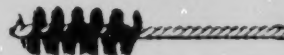

Figure 1-71. Wire Bristle Brush
c) Use a small wire brush to clean the inside of the smaller-size copper solder joint fittings. Wire brushes of the type shown in Figure 1-71 are available for cleaning fittings up to at least NPS 1. Various types of handles are attached to the end of the wire to simplify turning.